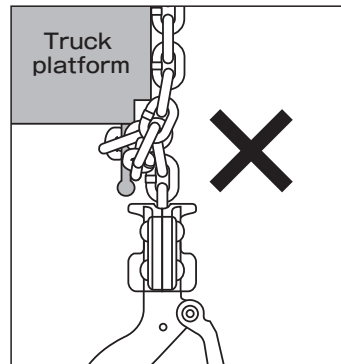

Figure 20
- (42) Do not suspend the load chain directly from rope hook fixtures on trucks. Do not use the load chain as a suspension device. (Figure 20)